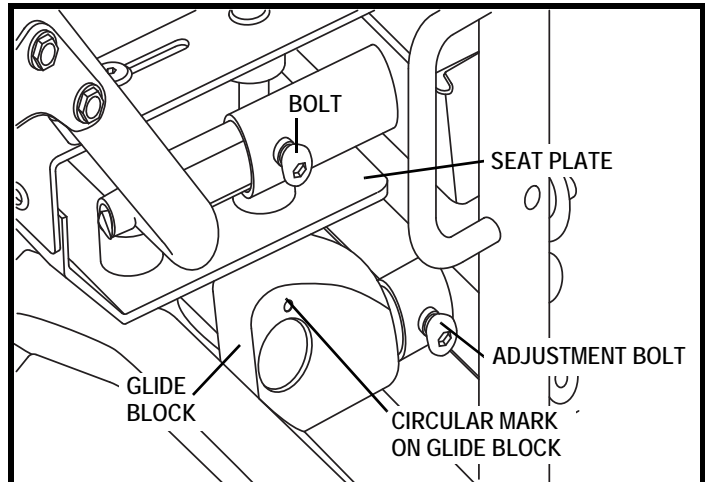

Figure 29. Kids ROCK 2 and ROCK 3 Seat Depth Adjustment
2. Use a 5/32-in. hex wrench to loosen the bolts on the left and right tubes. **See figure 29.**